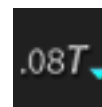

Figure 83. Magnetic field strength example
- ③ **Magnetic field strength (Figure 83)** displays the magnetic field strength for current procedure. Clicking this button allows you to change the magnetic field strength (**Figure 86**).